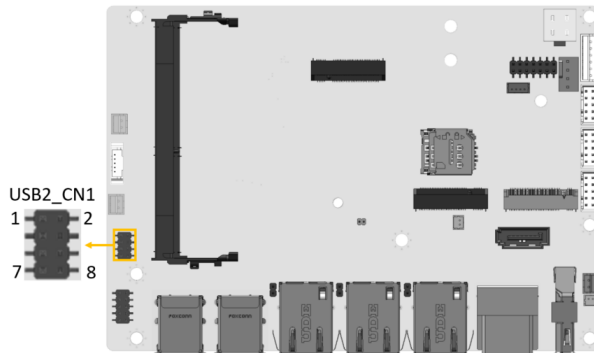

Figure 4-19: USB Connector Location
- CN Location:** See **Figure 4-19**